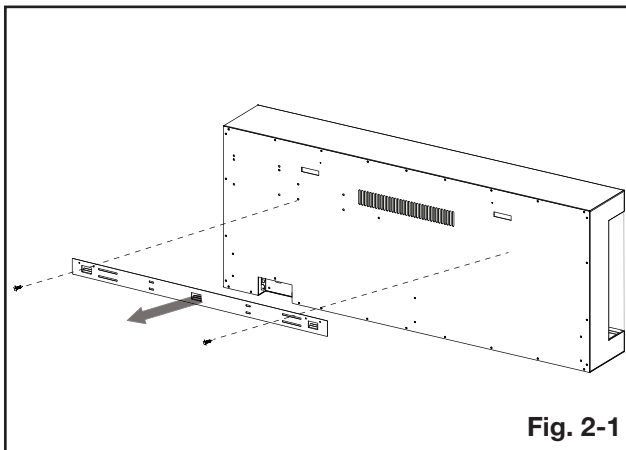

Fig. 2-1
3. Place the appliance face down on a soft, non-abrasive surface. Remove the bracket from the back of the appliance by removing the screws (**Fig. 2-1**). Set the bracket aside and discard the screws.